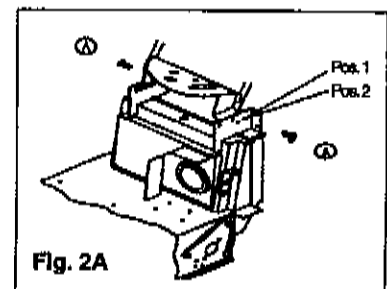

Fig. 2A
2.1.2 MOUNTING THE HANDLEBAR (FIG. 2A)